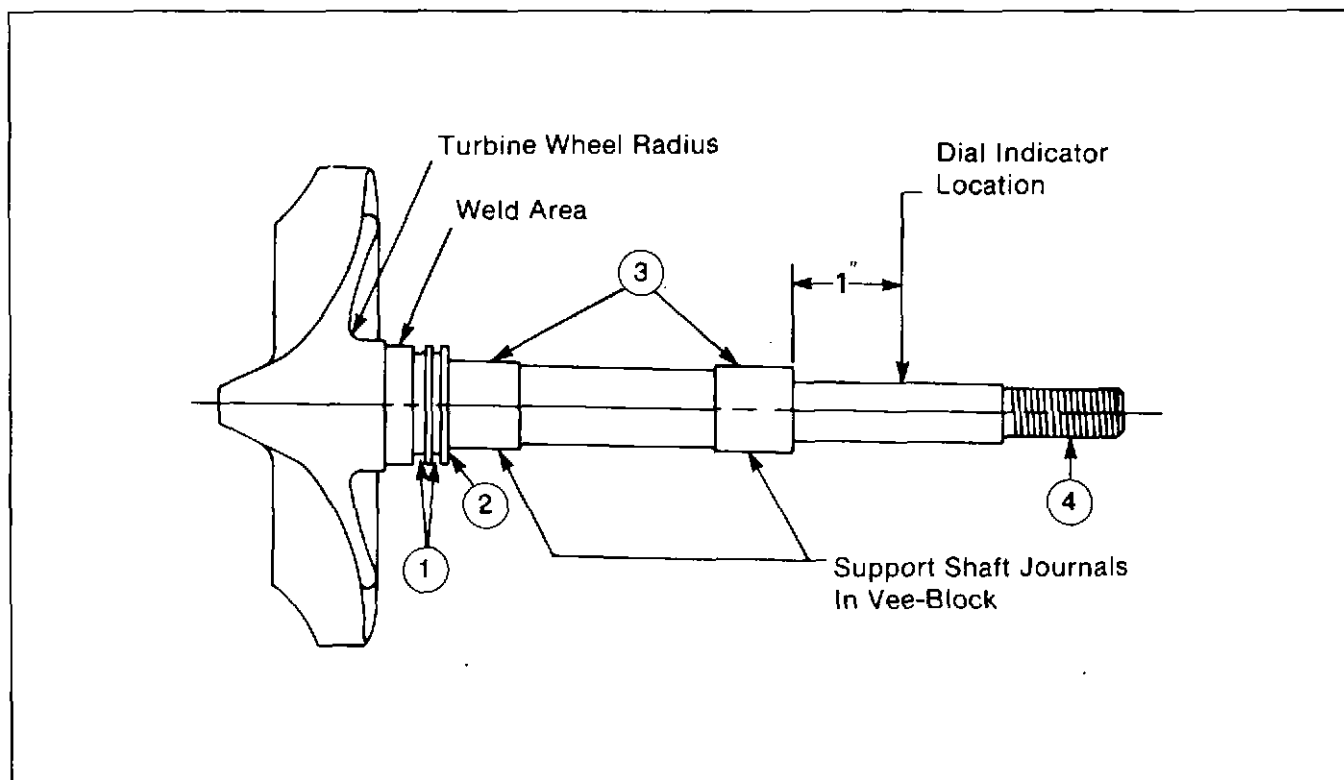

Fig. 4-23. (T465075). Inspect the turbine wheel and shaft
1. Inspect the sealing ring grooves, Fig. 4-23, for damage. Small grooves or marks are acceptable. Smooth with a crocus cloth before using again.
2. Check the turbine thrust edge (2) for scratches.
5. The turbine wheel and shaft may be used again if not worn in the bearing mating area (3), beyond the limits given in the specifications section.
6. Check the turbine shaft for damaged threads (4). Discard if damaged.
1. Support the turbine shaft journals in the Vee-blocks as shown in Fig. 4-23.